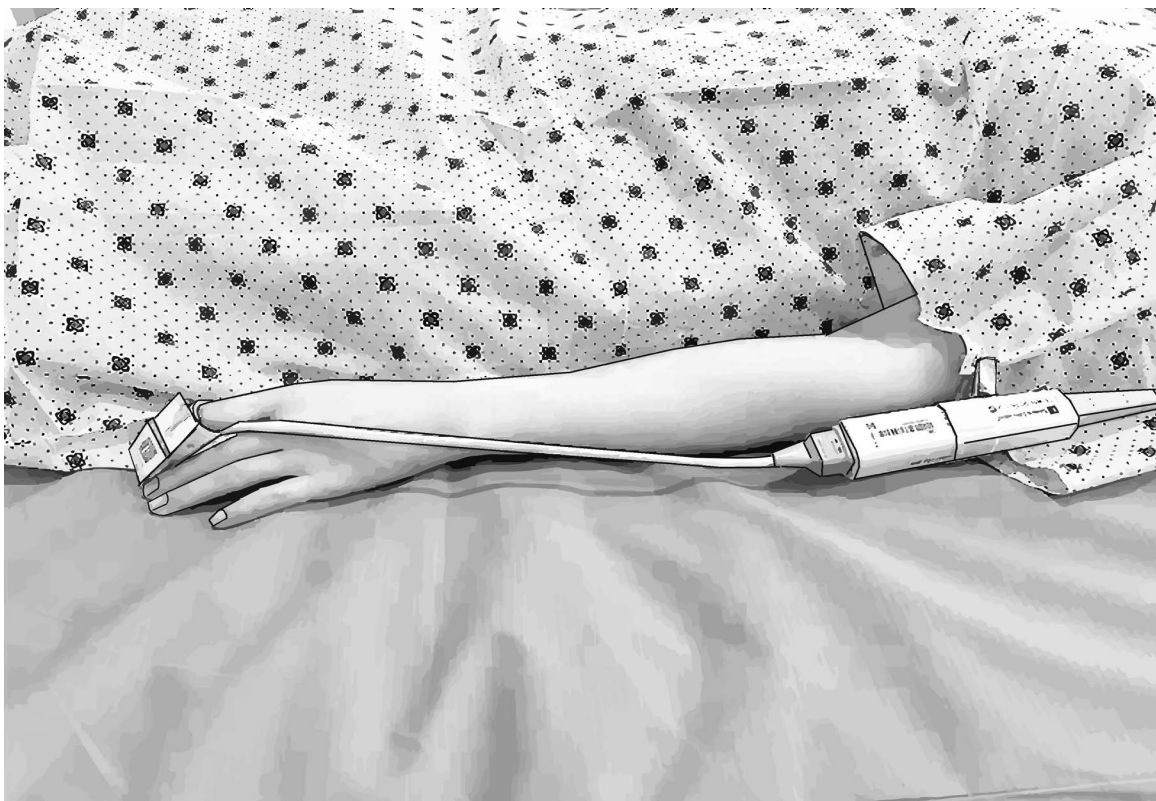

Figure 11-5 Smart pressure controller clip(s)
- 2 Use the Smart pressure controller cable clip(s) to place the Smart pressure controller near the patient's forearm. See figure 11-5 (preferred location).